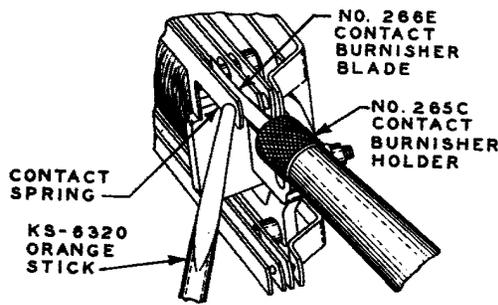

Fig. 8 — Method of Burnishing Contacts on A-, AB-, E-, EA-, F-, H-, R-, and T-type Relays
**4.08** In burnishing normally open contacts, place the blade of the burnisher between the contacts. Press them together with the KS-6320 orange stick as indicated in Fig. 8 or operate the relay manually, giving a slight pressure against the blade of the burnisher and at the same time move the blade back and forth. Fig. 8 to 16, inclusive, illustrate methods for some typical relays. Burnish similar contacts on other types of relays in the same general manner. In the case of the normally closed contacts, the tension of the springs themselves will usually furnish sufficient pressure against the burnisher. On springs having heavy tension, lift one of the springs away sufficiently to insert the burnisher. Additional details on methods of burnishing contacts on several types of relays are described in 4.10 to 4.13, inclusive.